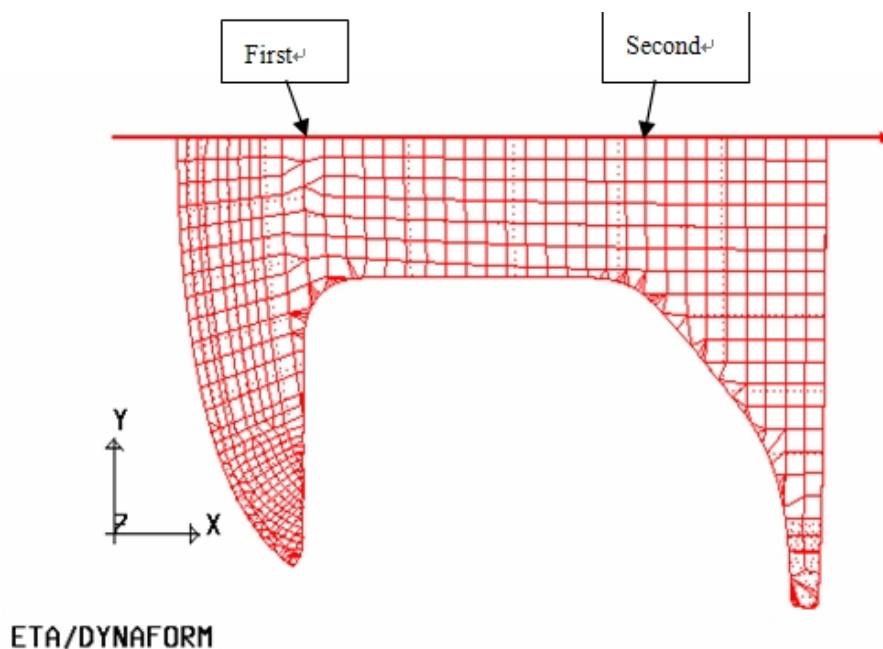
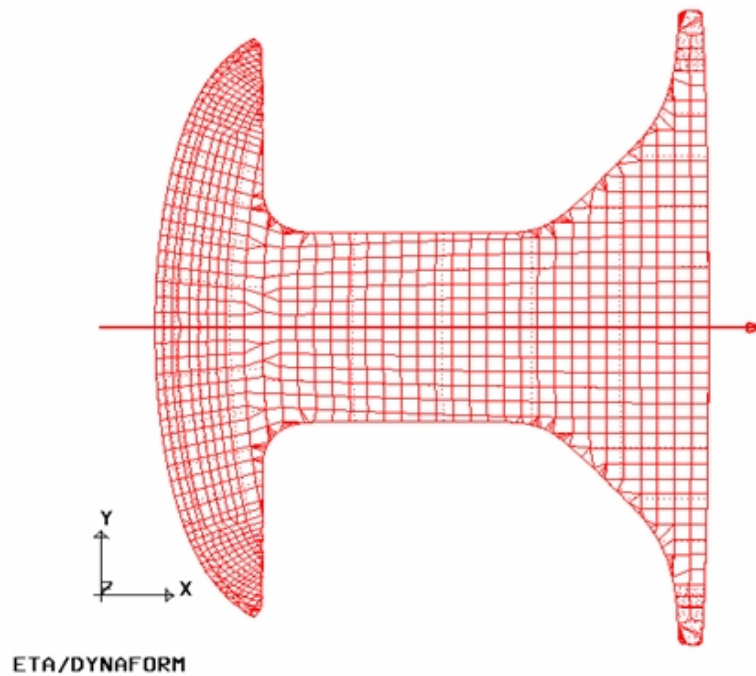

Figure 6.1.44 Half Symmetry Part With X-Z Plane
Figure 6.1.45 The Mirroring Result
- Click on the MIRROR GEOMETRY SYMMETRY button, following by selecting the part as illustrated in Figure 6.1.44. The mirror result is illustrated in Figure 6.1.45.